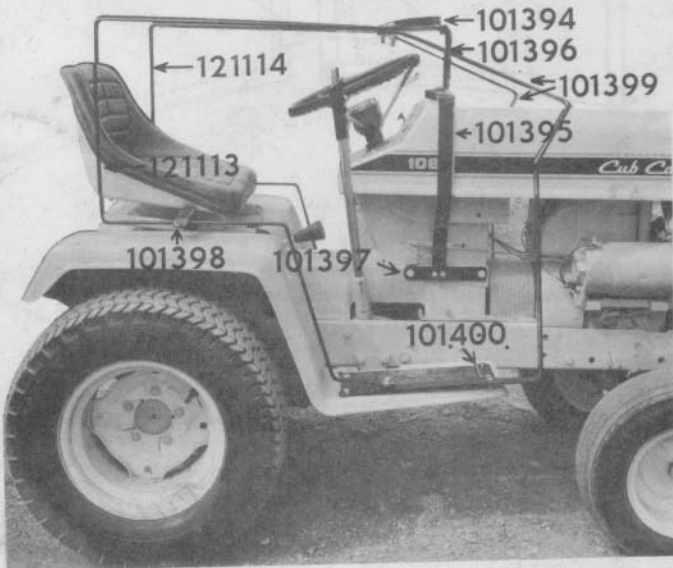

FIGURE 1
1. Bolt 101397 brackets to 101395 saddle using  $\frac{1}{4}$ " x  $\frac{3}{4}$ " flat head bolts and nuts. Brackets go inside of saddle and heads of bolts to inside. (See Figure 1).
2. Bolt 101396 bracket to 101395 using  $\frac{1}{4}$ " x  $\frac{3}{4}$ " flat head bolts. Note in Figure 1 position of 101396. Short end of 101397 goes to rear of tractor.
3. Bolt 101394 yoke to 101396 bracket using  $\frac{1}{4}$ " x  $\frac{3}{4}$ " flat head bolts. (See Figure 1).
4. Raise hood on tractor and slide assembly over dash panel and bolt to tractor using  $\frac{3}{8}$ " x 1" hex bolts. Check to see that assembly looks like Figure 1.
5. Bolt 101400 brackets to 101399 supports using  $\frac{5}{16}$ " x  $\frac{3}{4}$ " head bolts and nuts. Bolt into third hole from back of 101399. (See Figure 1).
6. Bolt 101400 brackets to front of foot rest using  $\frac{5}{16}$ " x  $\frac{3}{4}$ " hex head bolts. Nuts are welded in foot rest. (See Figure 1).
7. Place  $\frac{3}{8}$ " x 1" hex head bolt from bottom up in second hole from rear of 101399 supports. Then bolt back end of 101399 to foot rest using  $\frac{5}{16}$ " x  $\frac{3}{4}$ " hex bolts and nut. (See Figure 1).
9. Bolt top of side arms to 101394 and 101399 using  $\frac{3}{8}$ " x  $1\frac{1}{2}$ " carriage bolt. Head of bolt up and use two nuts on under side of lock. (See Figure 1).
10. Bolt bottom of side arms to bolt in 101399 supports. Place  $\frac{3}{8}$ " flat washer and two nuts on  $\frac{3}{8}$ " x 1" bolt. (See Figure 1).